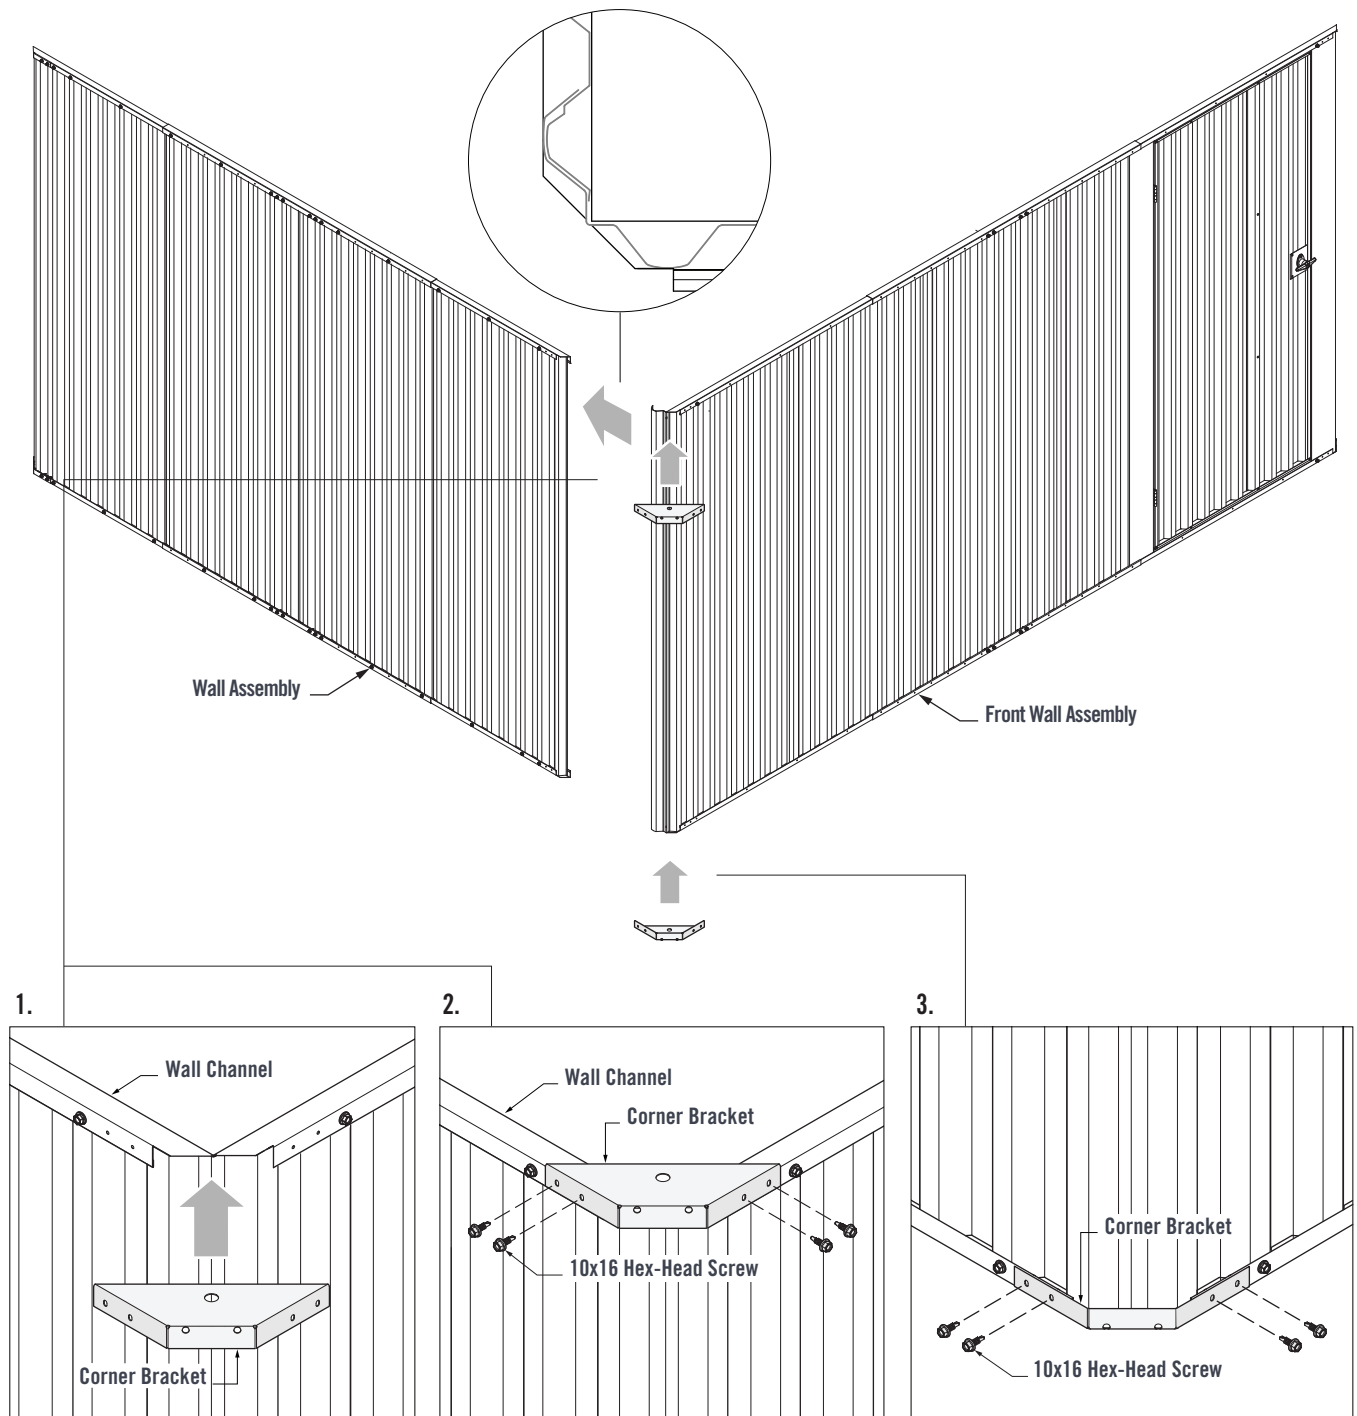

FIGURE 6.0
The wall assemblies can now be joined together. Fit the Corner Wall Sheet of the Front Wall over the Side Wall Sheet. Ensure the Corner Sheet fits inside the Side Wall Channels (Figure 6.0).
3. Fit a Corner Bracket to the bottom Wall Channels. Fasten through the Corner Bracket pilot holes and into the bottom Wall Channels using four 10x16 Hex-Head Screws (Figure 6.0).
Fit the Remaining Wall Assemblies together with Corner Brackets as per Figure 6.0.